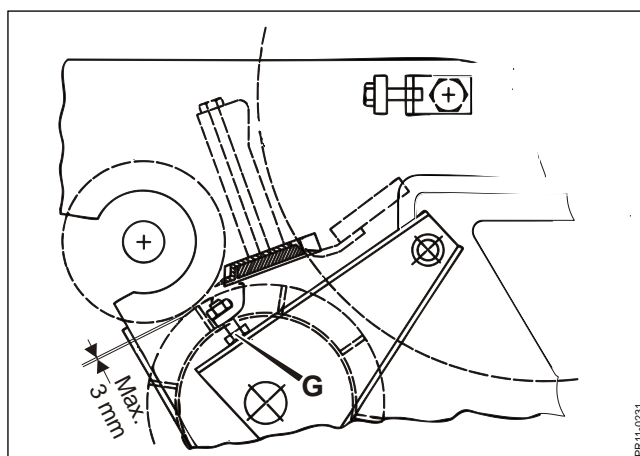

Fig. 4-17
**Fig. 4-17** The distance between the smooth roller and the serrated roller should be a maximum of 3 mm. Adjustment may be made using the bolts **G** at both sides of the rotor housing.